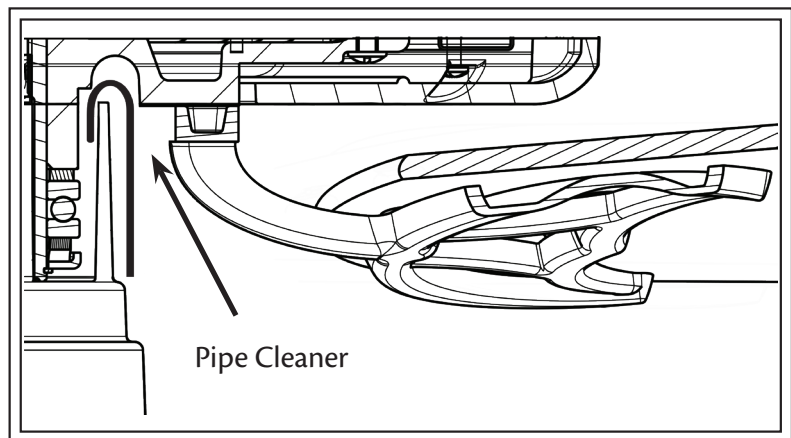

Fig. 18
3. If the oil touches the end of the pipe cleaner, the fan has ample oil. If it does not touch, add SAE 10 non-detergent oil slowly until it touches the pipe cleaner (see Fig. 18).